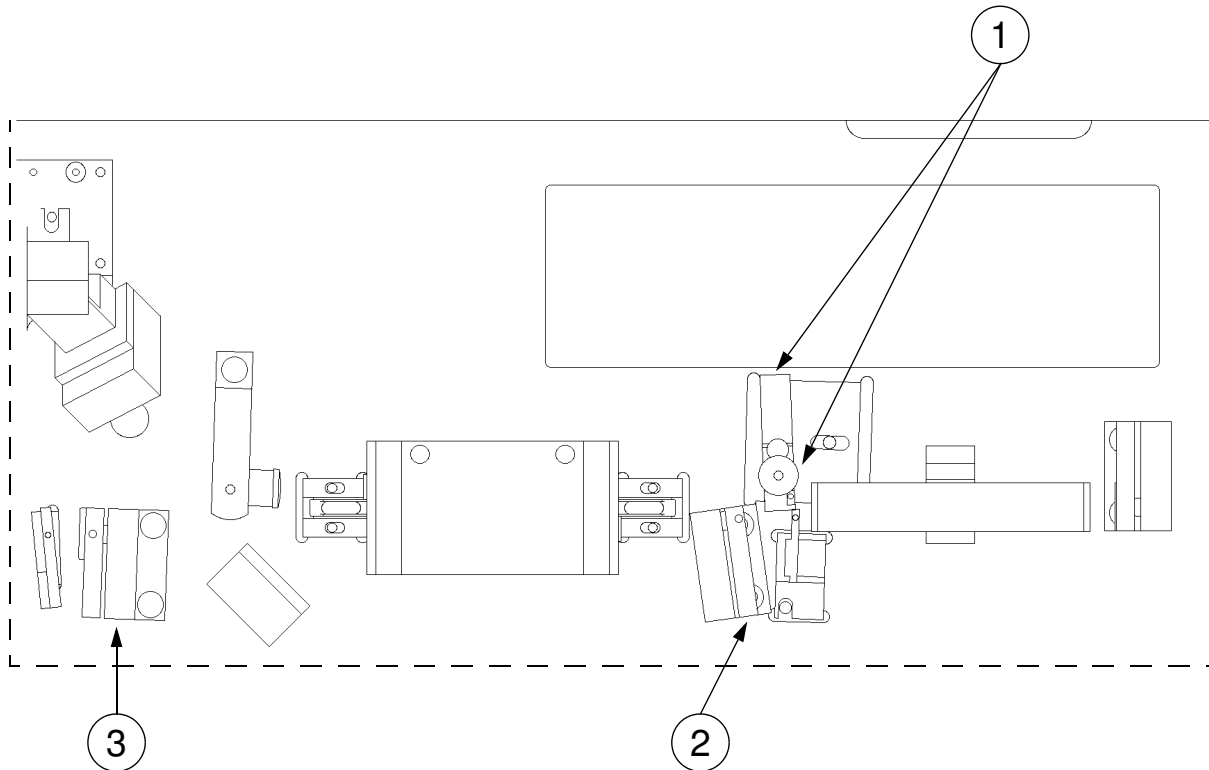

Figure 2.9-2. Order of Adjustments for Minimization of Depolarized Energy.
6. Adjust the tilt angle of the 90° polarization rotator, mount 2 in Figure 2.9-2. Use the long 5/32" ball driver supplied with the laser. Slowly tilt the crystal holder in the vertical and horizontal direction until a minimum in the depolarized energy is found.
9. Slowly adjust the horizontal and vertical translation controls of the first relay lens, mount 1 in Figure 2.9-2, while monitoring the amount of depolarized light. Iterate between the two controls until the minimum is reached.
10. Adjust the tilt angle of the 90° polarization rotator, mount 2 in Figure 2.9-2. Use the long 5/32" ball driver supplied with the laser. Slowly tilt the crystal holder in the vertical and horizontal direction until a minimum in the depolarized energy is found.
11. Carefully make vertical and horizontal tilt adjustments of the quarter wave plate holder, mount 3 in Figure 2.9-2, until the amount of depolarized energy has been minimized.
1. Move relay lens #1, mount 1 in Figure 2.9-2, a few millimeters to the left or right (further or closer to the POT assembly) and go through the minimization procedures again starting at step 8.
- B. Increase the depolarized energy by 20-30 mW using the horizontal tilt (upper) control of the 90° rotator, mount 2 in Figure 2.9-2.
- C. Try to compensate with the horizontal translation control of relay lens #1, mount 1 in Figure 2.9-2.